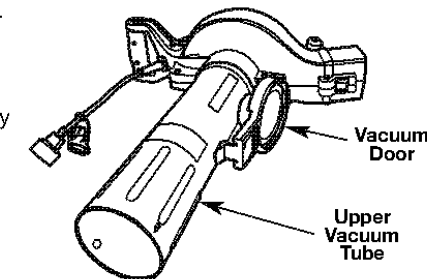

Fig. 4
3. Slide the upper vacuum tube into the motor housing (Fig. 4).